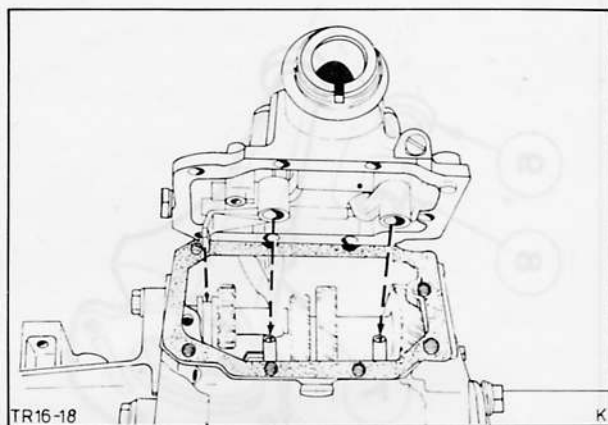

Fig. 61. Fit selector housing
54. Fit the selector housing with new gasket, Fig. 61.